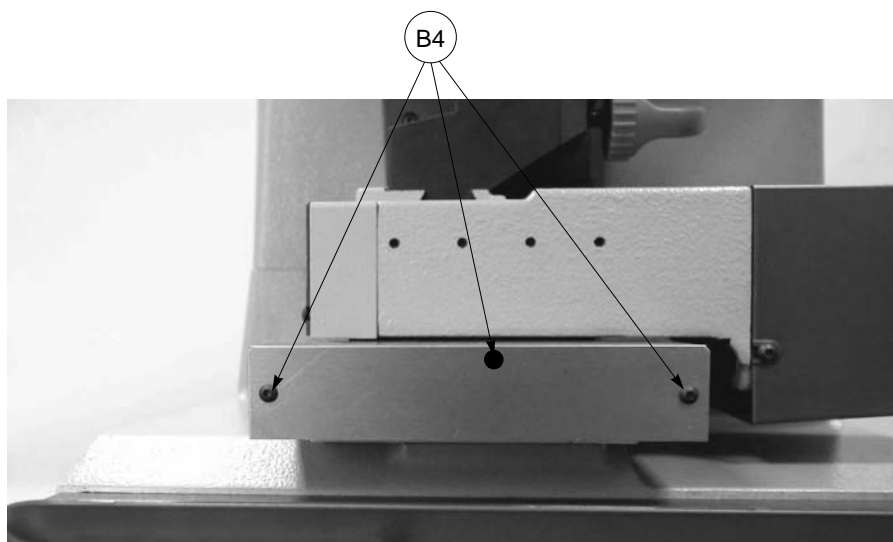

Fig. 40
- 8) remove the front cover on the bottom carriage by unscrewing the 3 screws (B4) (fig. 40).